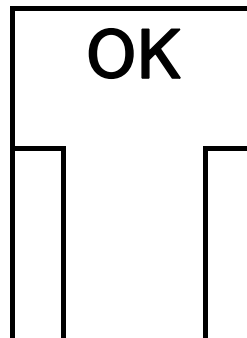

Fig.12
- (4) When the aircraft is stopped at the correct stopping position, a message "OK" will be displayed on the screen in several seconds. (Fig.12)